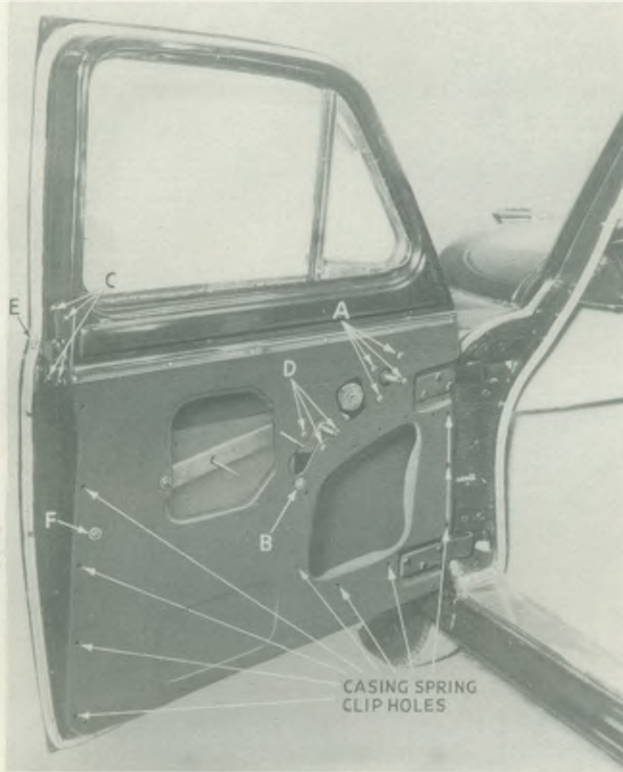

Fig. 5. Front door with casing removed
2. Remove arm rest and then door casing by pulling it downwards to disengage it from the top chrome finisher strip, after removal of visible fixing screws and freeing the spring clips which fit into holes in the door inner panel. See Fig. 5 for location of these holes.
4. Remove the four screws (marked "A" on Fig. 5) securing the window regulator mechanism to the inner door panel, disengage the operating arm from the channel at the bottom of the glass and remove the mechanism through the glove box aperture.
5. Remove self-tapping screws (their approximate position is indicated at "B" on Fig. 6), which are embedded in the felt in each drop light channel. If difficulty is found in locating these, peel out the felt from the channel until resistance indicates the presence of a screw. Remove screw marked "B" on Fig. 5 and slide down forward channel directing its lower end towards the bottom front corner of the door body and then manoeuvre it out, through the glove box aperture.
7. The "lock pillar and top" glass channel (which are all in one piece) can be extracted through the glove box aperture, as shown in Fig. 8, after removing screw "F" shown in Fig. 5. The drop light may now be lifted out by manoeuvring it into the position shown in Fig. 6.
10. The door locking mechanism can be withdrawn after removing the four screws marked "C" and the three marked "D" (on Fig. 5), which release the Schonitzer Door Lock and Remote Control Unit respectively. Finally, if it is required, the exterior handle can be removed after taking out the screw (marked "E") located underneath the door sealing rubber.